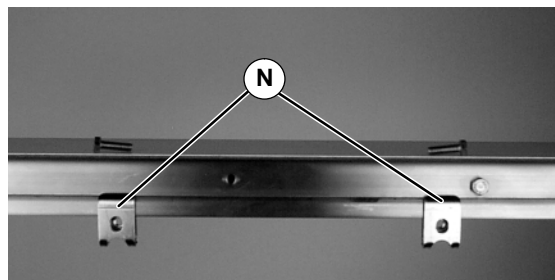

Figure 7
**NOTE:** For shipping, T-bars (A), Mounting Plate (B), Mounting Brackets (D) and Pushbutton Box (G) are pre-assembled. Detach all before proceeding.
1. Install mounting clips (N of Figure 7) on conveyor.